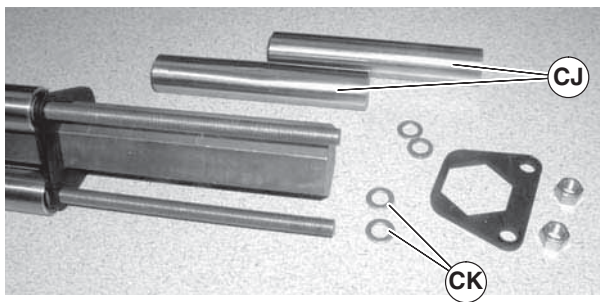

Figure 70
7. Remove pulleys (Figure 70, item CJ) and additional washers (CK).